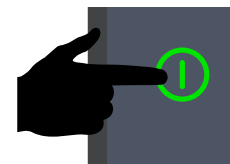

Figure 53. Start Button
- Press the **Start button** (Figure 53) on the digital controller to start the engine.